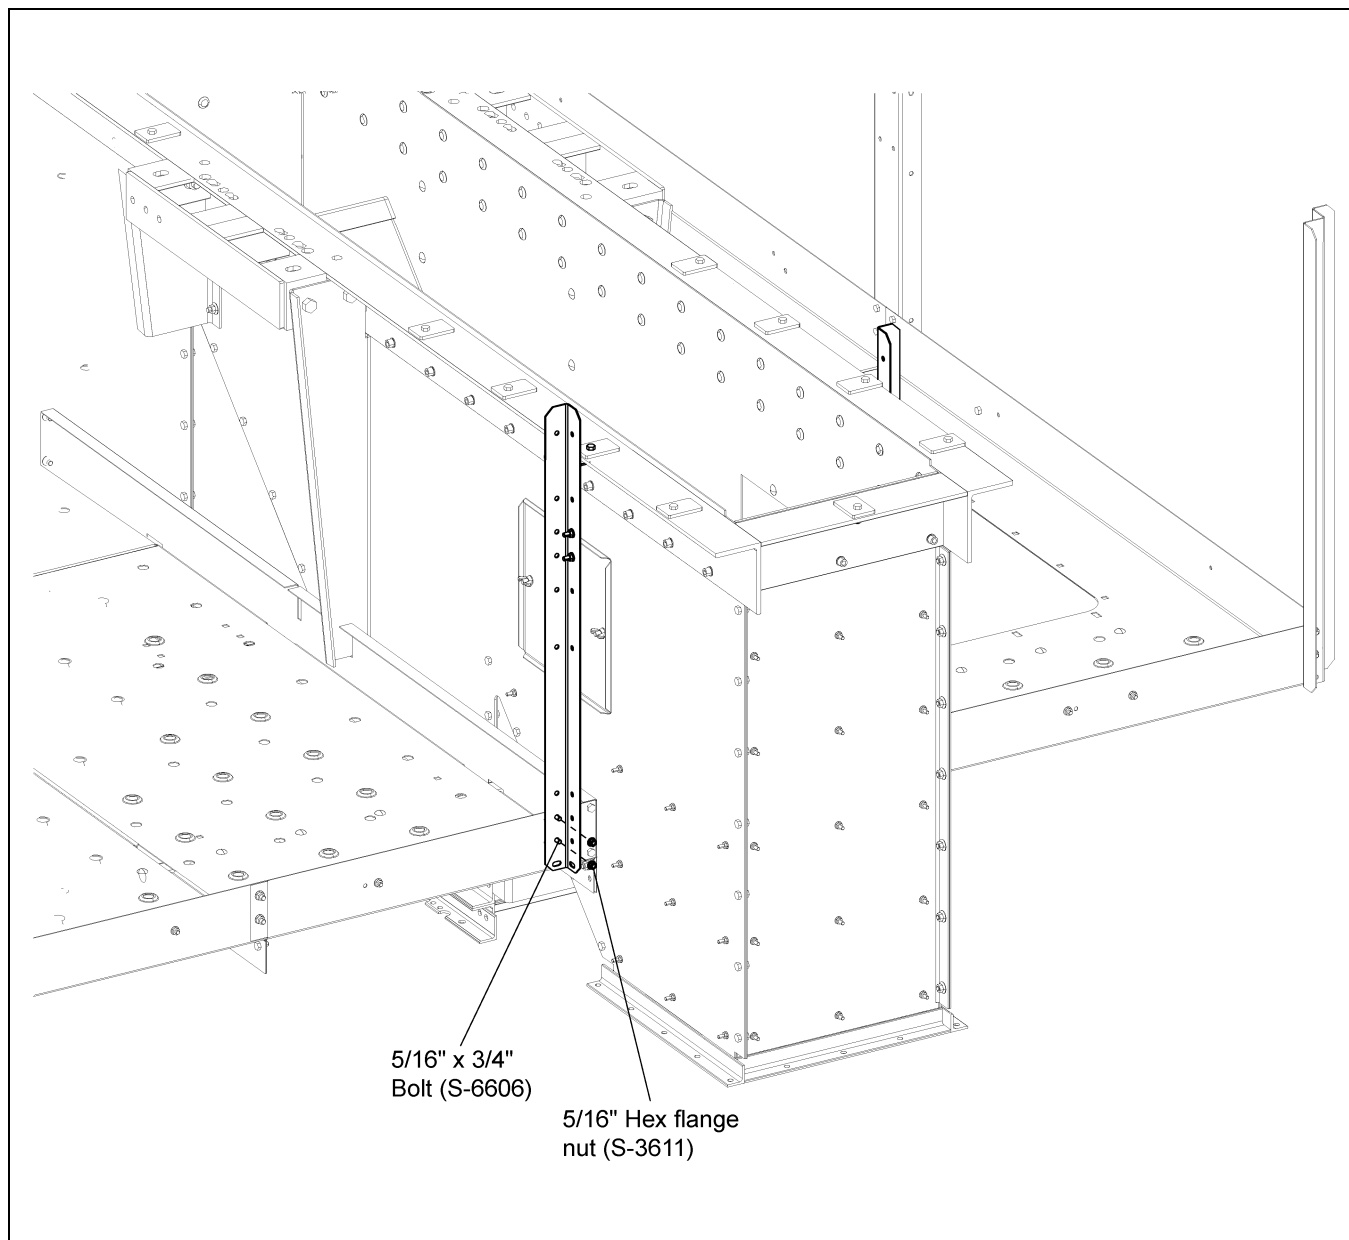

Figure 10G
3. Attach side post to decking using 5/16" x 3/4" bolts and nuts. *(See Figure 10G.)*